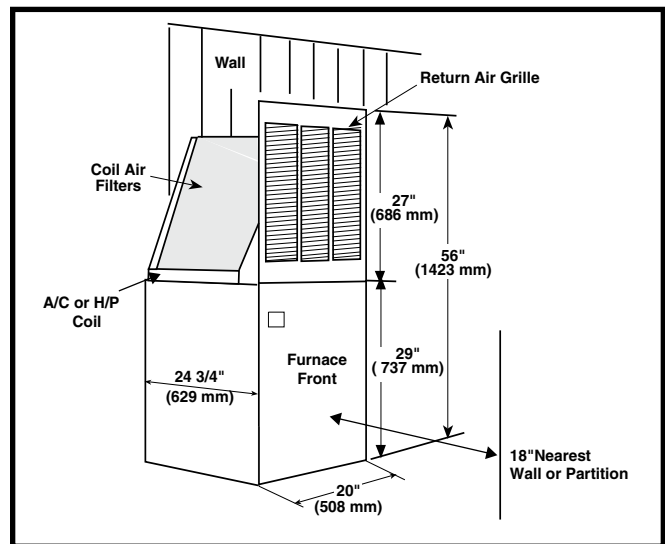

Figure 10. Alcove Installation
- Cut alcove rough openings to minimum dimensions shown in Figure 10 (page 8). **NOTE:** The height may increase depending on the size of the coil compartment.